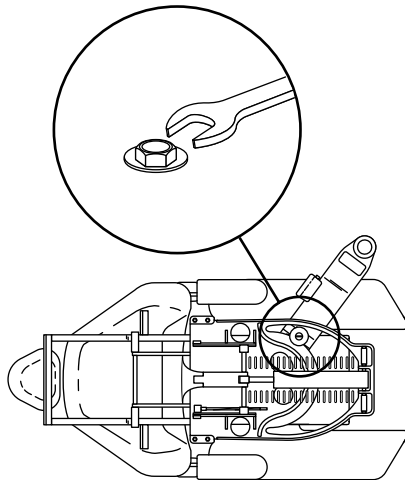

Figure 12. Retaining Nut
4. Use a 15/16-inch wrench to loosen the retaining nut shown in Figure 12.